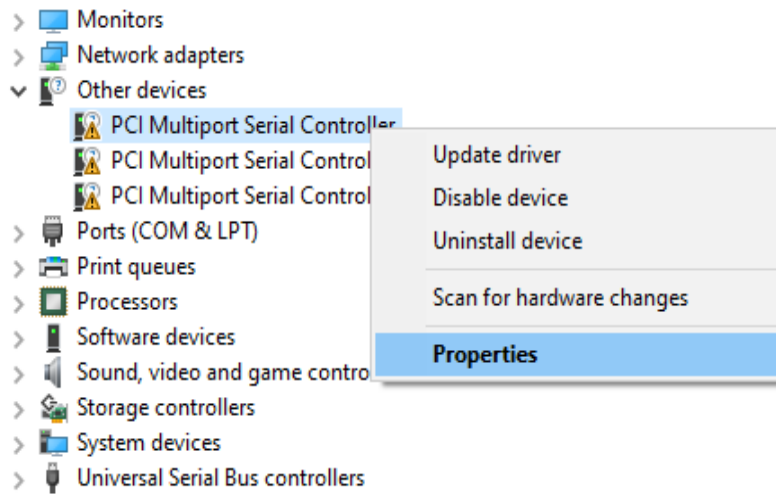

Figure 5.24. Showing Device Properties
- Right-click on each device and select **Properties** as shown in Figure 5.24.